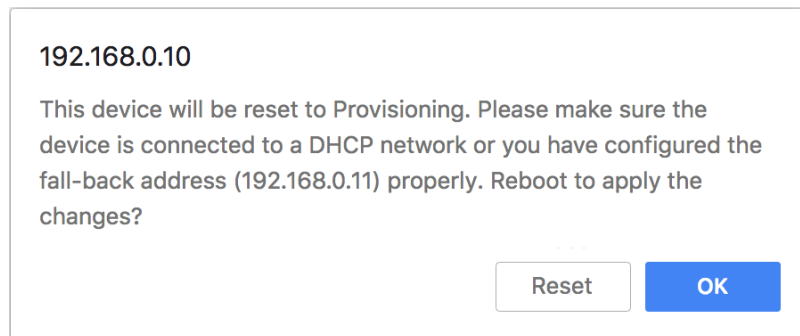

Figure 20. Unit reboot dialog (typical)
- The web browser will show the unit reboot dialog (Figure 20 (page 40)).